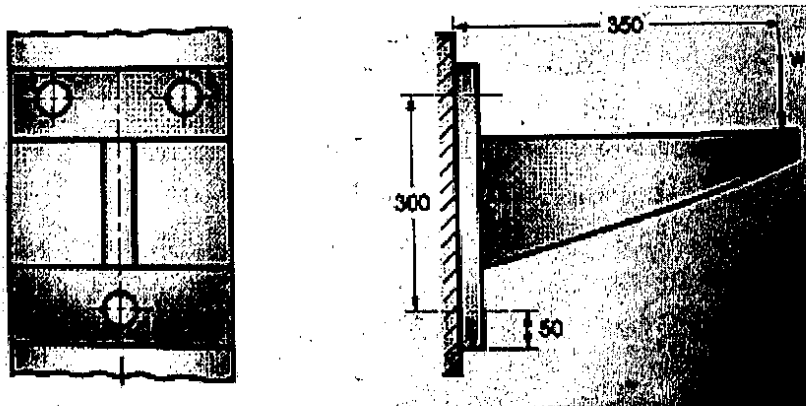

Fig.2
- Q6) a)** A steel bracket is fixed to the vertical support by three bolts of size M20, two at the top and one at the bottom, as shown in fig.2. If the permissible tensile stress for the bolt is 60 N/mm^2 , determine the maximum load that can be supported by bracket at 350 mm from the vertical support. [9]